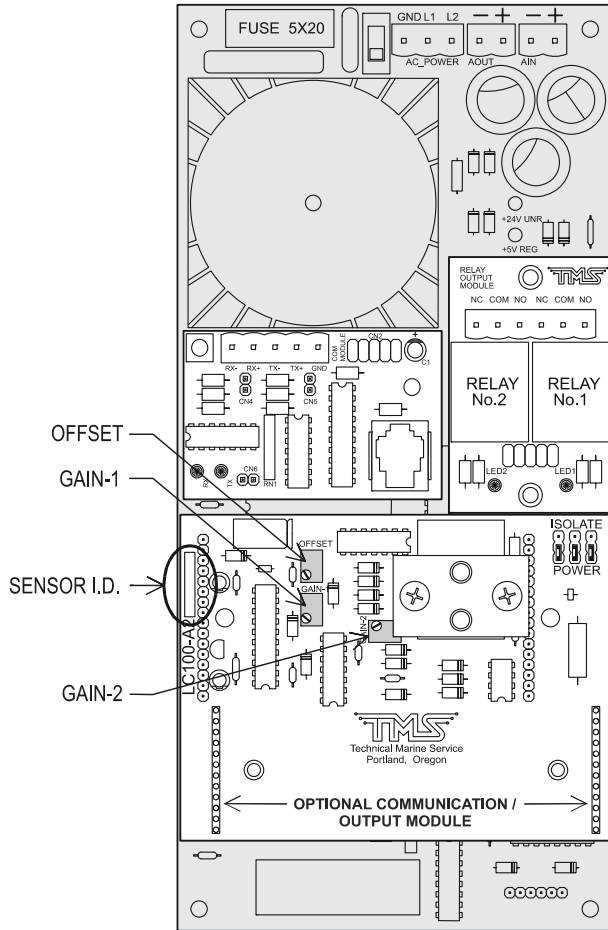

Figure 12 LevelCom 100 Interior
1. Determine the type of pressure sensor installed in the LevelCom 100 by inspecting the white silk-screened area of the Pressure Sensor Circuit Board (Refer to Figure 12 for the location).
5. Adjust the **OFFSET** potentiometer on the pressure sensor circuit board until the display reads 50 if the for a 15 PSI or 30 PSI sensor, or 80 for a 100 PSI sensor (Refer to Figure 12 for the location of the OFFSET potentiometer). Press **ACK** when this step is done and proceed to step 5.
The instrument will now read the applied pressure in inches of water to an accuracy of 0.1". If the reading is different from this value adjust the **GAIN-1** potentiometer until the correct reading shows on the display, agreeing with the reading on the calibration gauge. (Refer to Figure 12 for the location of the GAIN-1 potentiometer)
11. The LevelCom 100 display should show a number near 3200. Adjust the **GAIN-2** potentiometer until the correct reading of 3200 is on the display. (Refer to Figure 12 for the location of the GAIN-2 potentiometer)